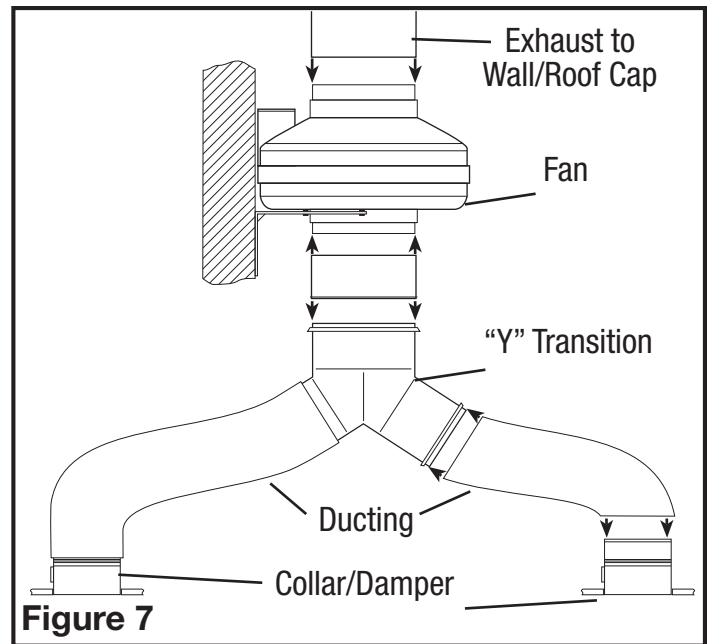

Figure 7
1. Connect one end of the ducting (not included) to the room level collar/damper and the other end to the "Y" transition. Secure both ends in place using tape or a screw clamp to create as air tight a seal as possible. Repeat this step for the other room level grill housing (**Figure 7**).
2. Connect one end of the ducting to the top of the "Y" transition and the other end to the intake of the fan (**Figure 7**).
3. Connect one end of the ducting to the exhaust of the fan and the other end to a wall or ceiling cap (**Figure 7**). Always duct the fan to the outside through a wall or roof cap.